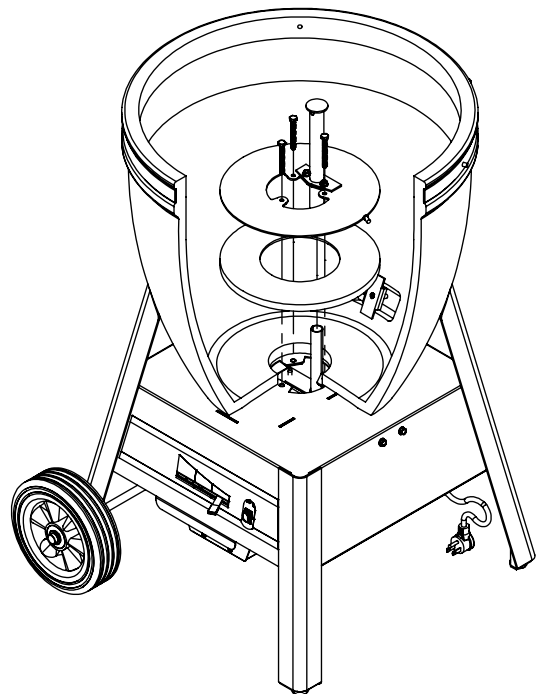

FIGURE 10: SECURING THE SHELL
Step 10: place the 10" round ceramic blanket in the bottom of the shell. Now take the stainless steel shell secure plate with ignitor cover tube attached, slide the ignitor cover tube over the ignitor. The Ignitor cover tube will locate in the hole the ignitor is coming up through in the base. See figure 10.